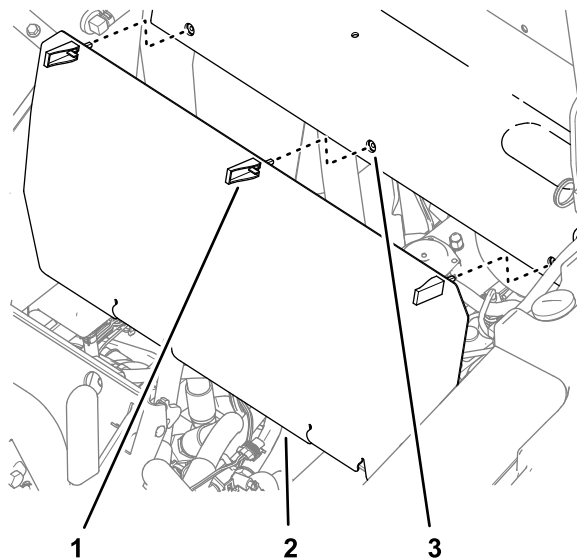

Figure 3
1. Open the latches of the rear panel (Figure 3).
2. Remove the rear panel from the machine (Figure 3).